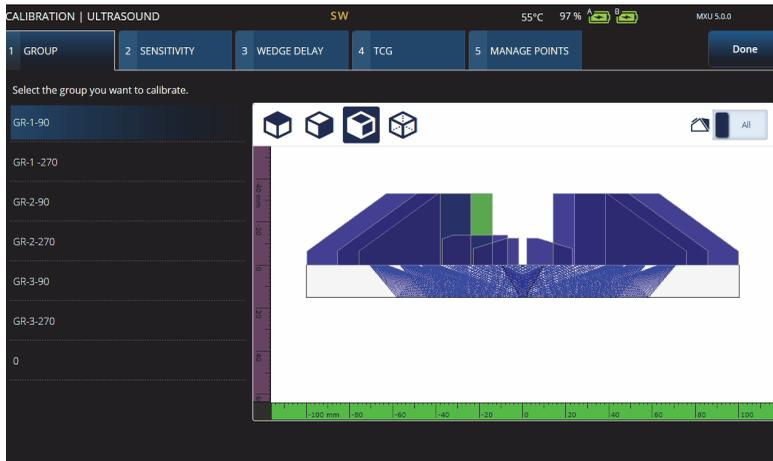

Figure 4-1 Calibration > Group
1. Select  >  **Plan & Calibrate** > **Calibrate** to access the **PA** or **TOFD Calibration** wizard (Figure 4-1 on page 104). Like the **Scan Plan** wizard, the **PA** or **TOFD Calibration** wizard's workflow is separated into several tabs or sections (for different types of calibration).
2. On the **Group** tab (Figure 4-1 on page 104), select the group you wish to calibrate.